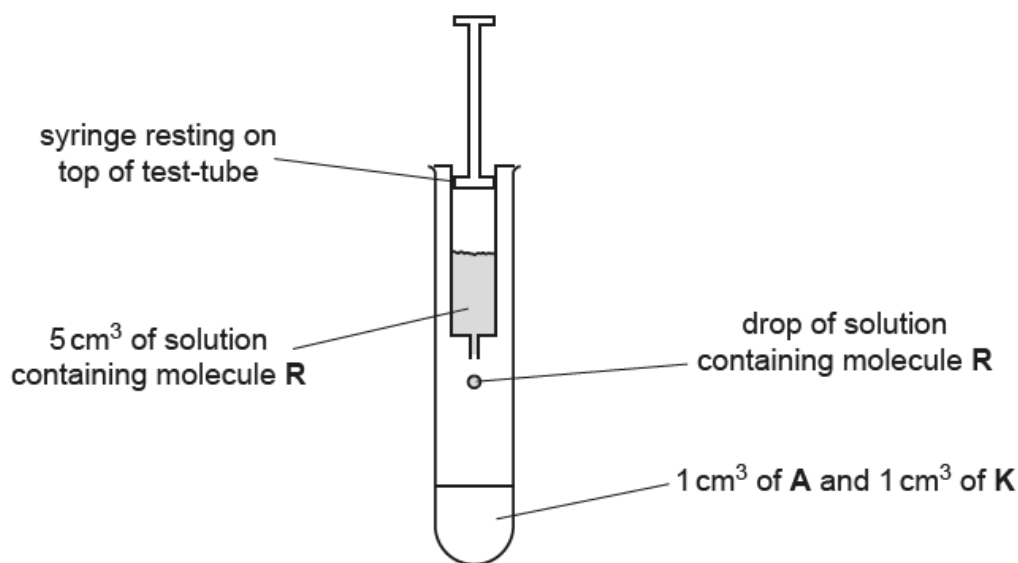

Fig. 1.2
- Step 7 Put the syringe containing 10% **R** into the test-tube from step 4 as shown in Fig. 1.2.